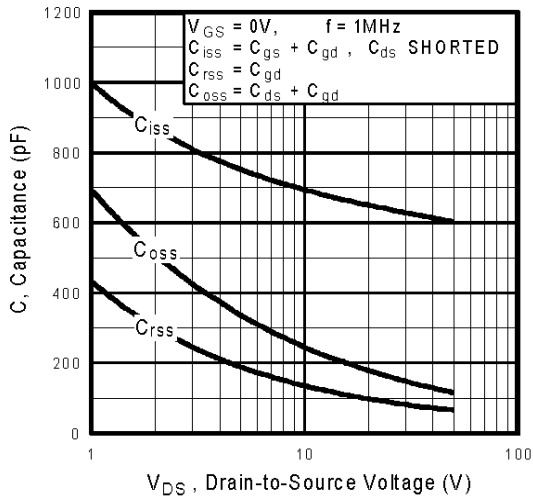

Fig 5. Typical Capacitance Vs. Drain-to-Source Voltage
| C _{RSS} | Reverse Transfer Capacitance | — | 88 | — | | f = 1.0MHz, See Fig. 5⑥ |